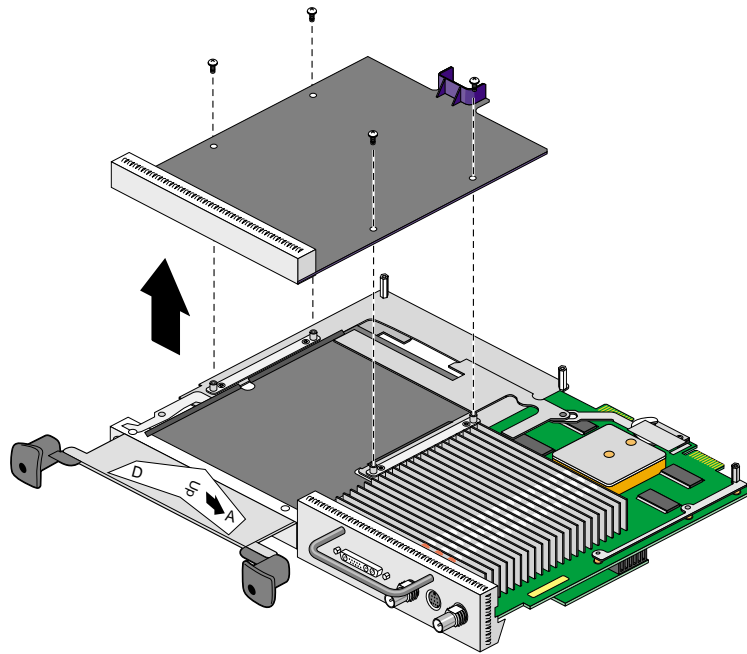

Figure 22 Removing the Blank Panel
2. Grasp the blank panel or option board on the front and on the side of the board that has no connectors, and lift it, as shown in Figure 22.